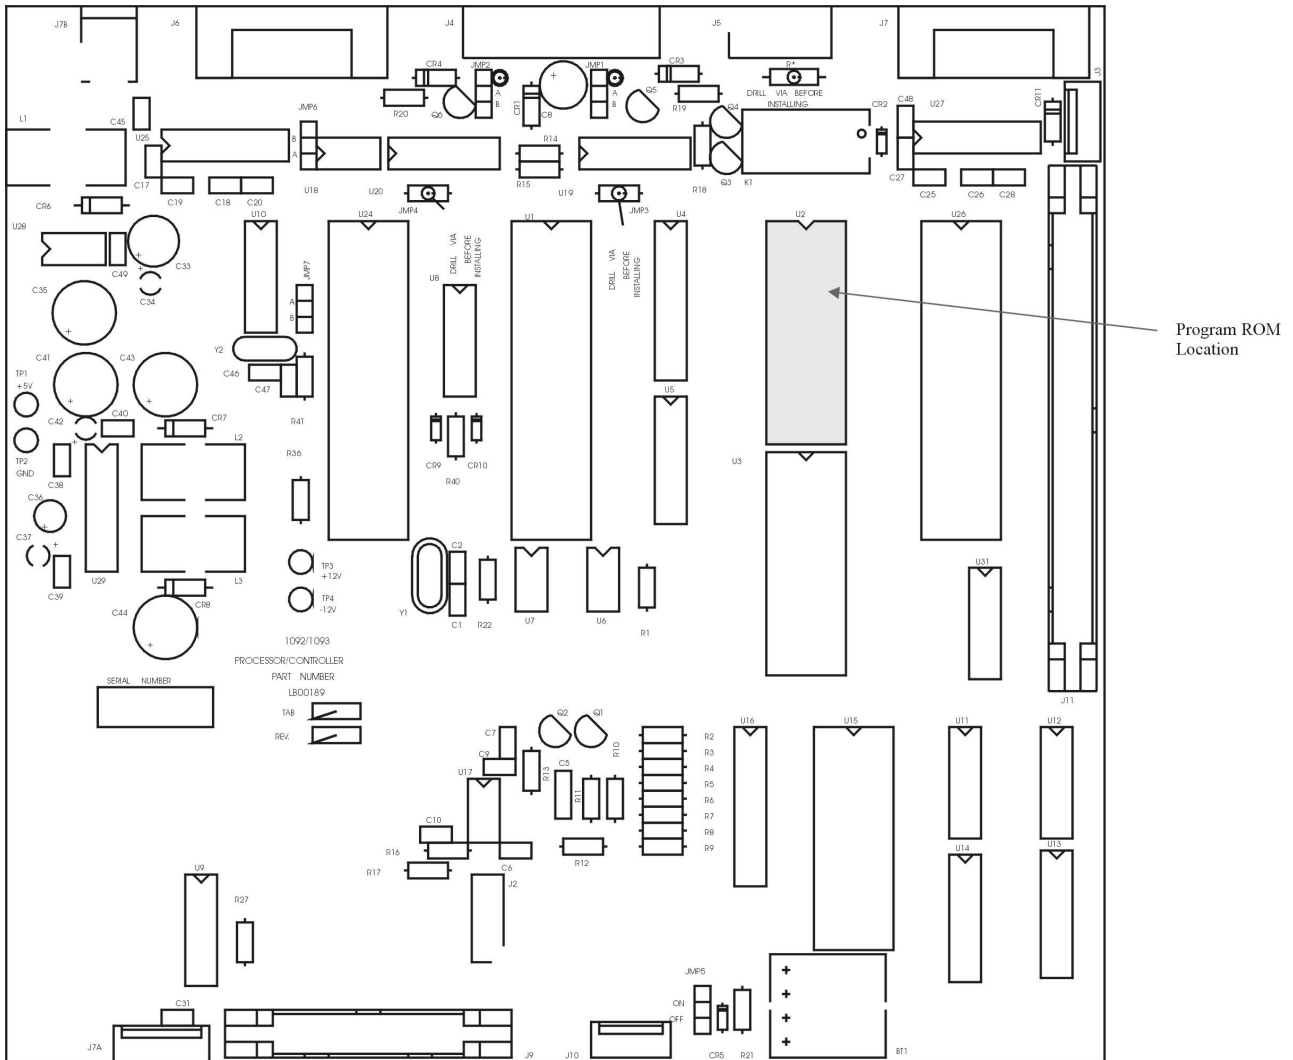

Figure 1 – Model 1092A/B/C, 1093A/B/C Main board
1. Locate the program ROM located at U2 on the main board (see Figure 1).